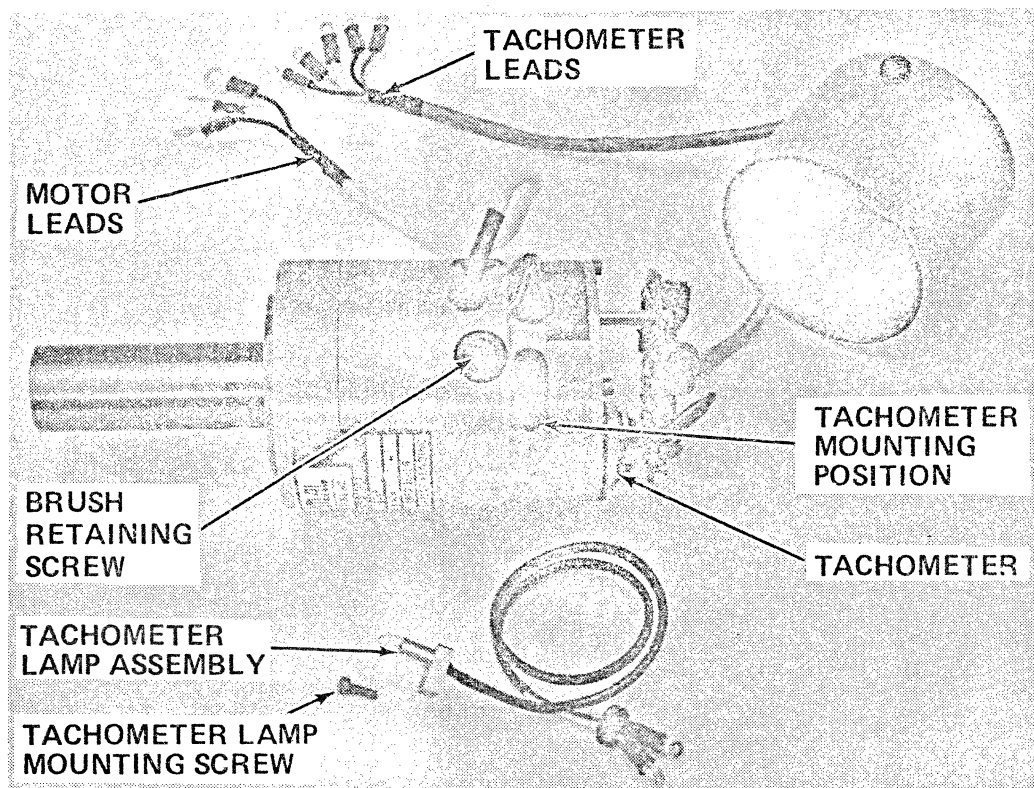

Figure 9. Capstan Motor, Disassembled
- Step 1.* Gain access to the Capstan motor and remove the four brush retaining screws. Refer to figure 9.